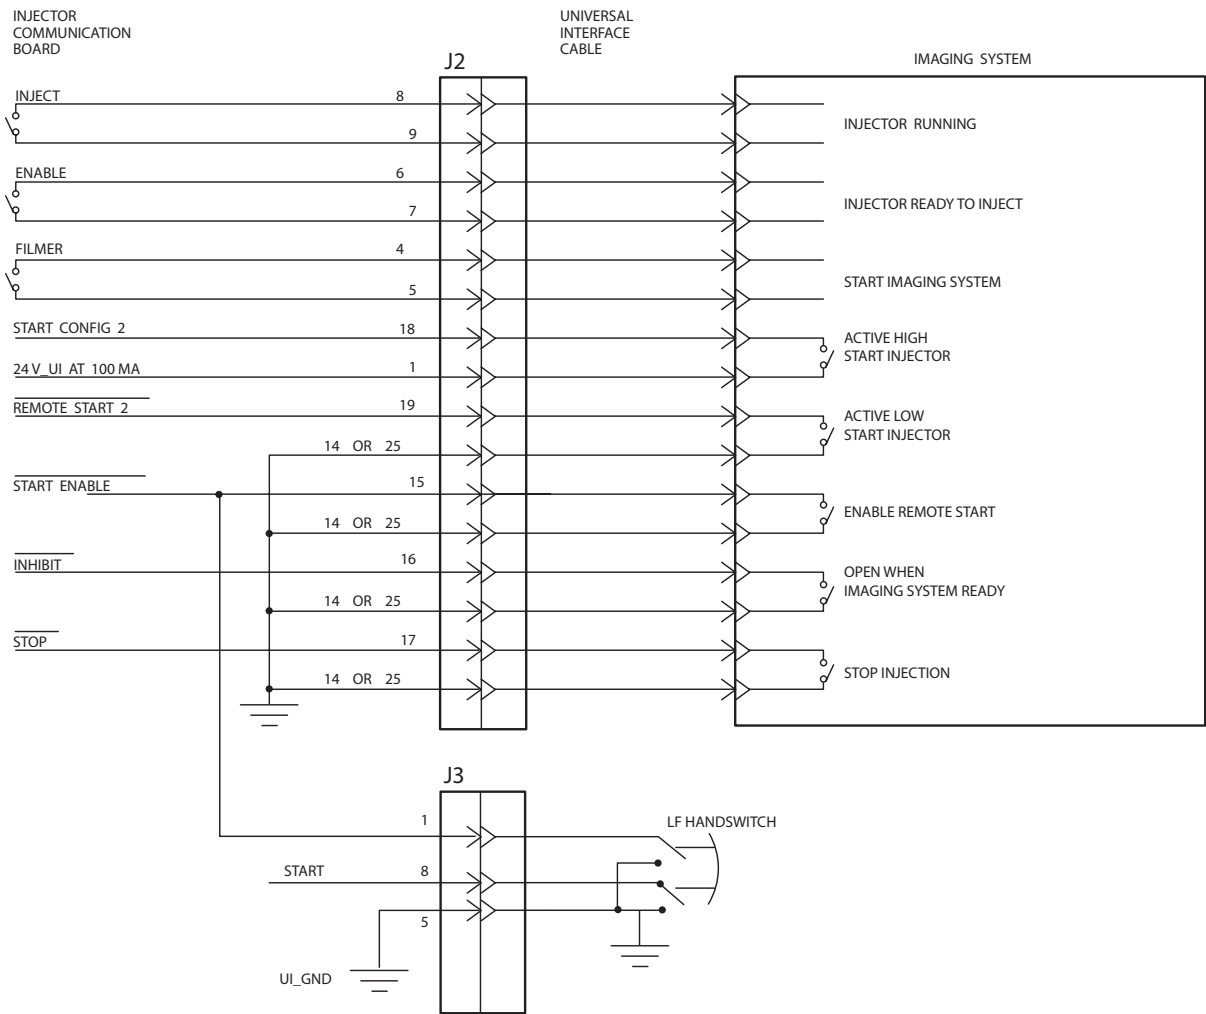

Figure 2-9-1 Standard Universal Interface (UI)
The Universal Interface (UI) Port in the Angioma[®]t Illumena Contrast Delivery System allows you to link the injector to the imaging system or synchronization, control, and to exchange status information. This interface allows the injector and imaging system to trigger each other, and it provides status and control lines between the injector and imaging system. The following is a summary of the connections possible with the Universal Interface. A general wiring diagram is shown in Figure 2-9-1.
Activated by a relay closure from pin J2:18 to the 24V_UI supply at pin J2:1 on the Universal Interface Connector. This function starts an enabled injection if START CONFIG 2 and the start enable input circuits are completed as shown in Figure 2-9-1.
Activated by a relay closure from pin J2:19 to the UI_GND pins J2:14 or J2:25 on the Universal Interface Connector. This function starts an enabled injection if the REMOTE START 2 and the start enable input circuits are completed as shown in Figure 2-9-1. The injector will stop when the relay opens or the end of injection is reached, whichever occurs first. The exception to this is in CT mode where the injection start latches on and is terminated by either a second start input activation, or the end of injection.
Activated by a relay closure from pin J2:15 to the UI_GND pins J2:14 or J2:25 on the Universal Interface Connector. This function stops the current injection in process when the circuit is completed as shown in Figure 2-9-1.